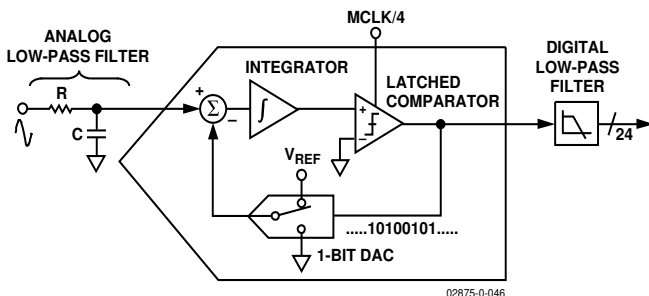
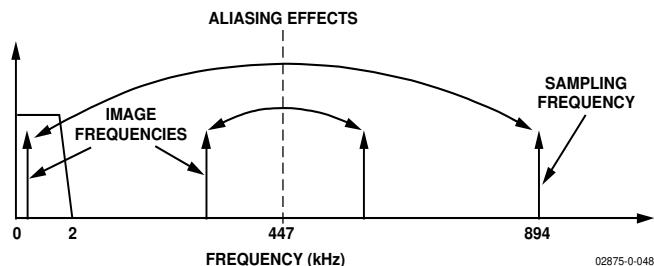

Figure 47. First-Order Σ - Δ ADC
Figure 49. ADC and Signal Processing in Channel 1 Outline Dimensions
The analog-to-digital conversion in the ADE7753 is carried out using two second-order Σ - Δ ADCs. For simplicity, the block diagram in Figure 47 shows a first-order Σ - Δ ADC. The converter is made up of the Σ - Δ modulator and the digital low-pass filter.
Figure 47 also shows an analog low-pass filter (RC) on the input to the modulator. This filter is present to prevent aliasing. Aliasing is an artifact of all sampled systems. Aliasing means that frequency components in the input signal to the ADC, which are higher than half the sampling rate of the ADC, appear in the sampled signal at a frequency below half the sampling rate. Figure 49 illustrates the effect. Frequency components (arrows shown in black) above half the sampling frequency (also known as the Nyquist frequency, i.e., 447 kHz) are imaged or folded back down below 447 kHz. This happens with all ADCs regardless of the architecture. In the example shown, only frequencies near the sampling frequency, i.e., 894 kHz, move into the band of interest for metering, i.e., 40 Hz to 2 kHz. This allows the use of a very simple LPF (low-pass filter) to attenuate high frequency (near 900 kHz) noise, and prevents distortion in the band of interest. For conventional current sensors, a simple RC filter (single-pole LPF) with a corner frequency of 10 kHz produces an attenuation of approximately 40 dB at 894 kHz—see Figure 49. The 20 dB per decade attenuation is usually sufficient to eliminate the effects of aliasing for conventional current sensors. However, for a di/dt sensor such as a Rogowski coil, the sensor has a 20 dB per decade gain. This neutralizes the -20 dB per decade attenuation produced by one simple LPF. Therefore, when using a di/dt sensor, care should be taken to offset the 20 dB per decade gain. One simple approach is to cascade two RC filters to produce the -40 dB per decade attenuation needed.